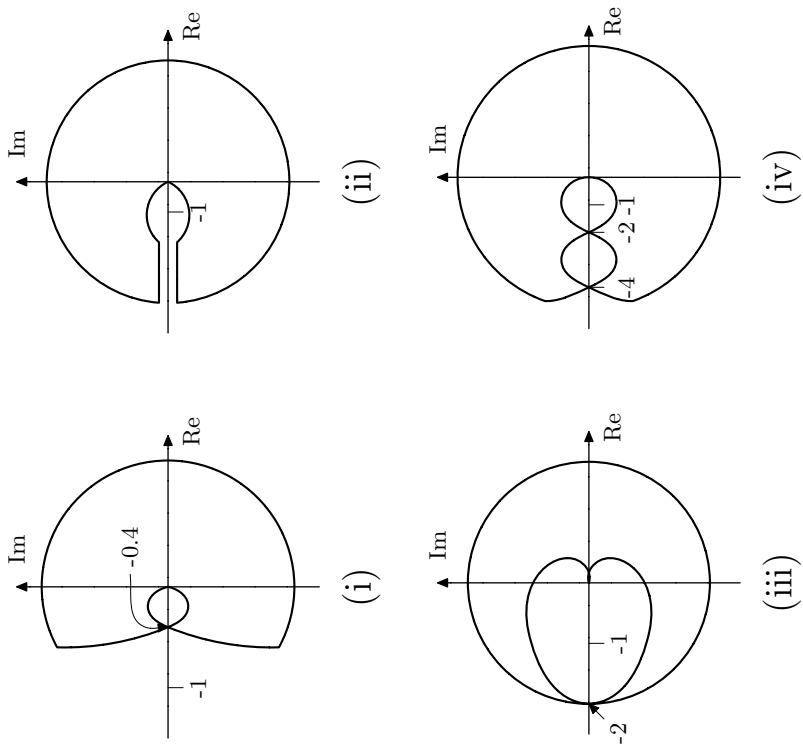

Figure 3.15b
a) For  $K = 1$ , the open loop system  $KG(s)$  has the Nyquist diagram according to (i), (ii), (iii), or (iv) in Figure 3.15b. Is the closed loop system stable in each case?  $G(s)$  has no poles in the right half plane.